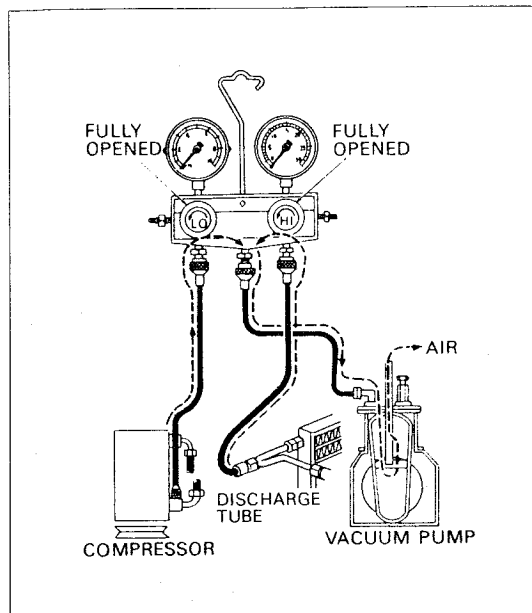
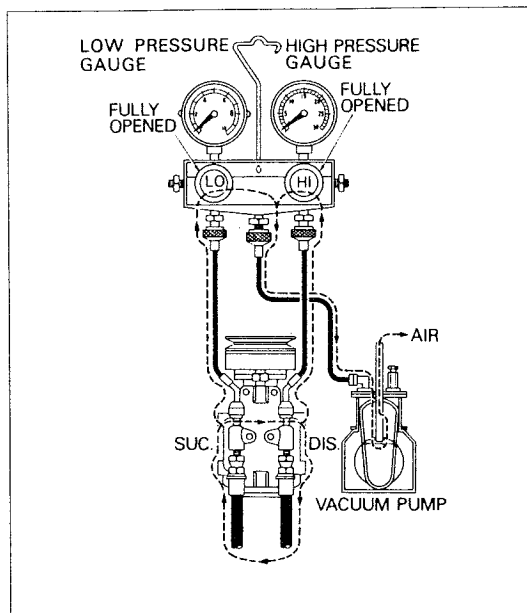

Fig. 96
Fig. 97
- 2) Install the center charging hose of the refrigerant charging gauge to the vacuum pump inlet. See Fig. 96 or Fig. 97.